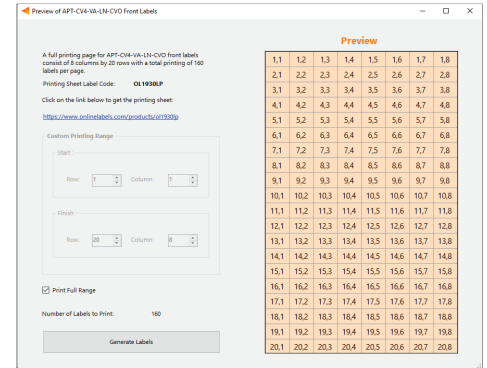

Figure 17: Label generation print preview window
- 1 Select **File > Generate Label** or press **Ctrl +L** to open the Label Generation window (shown in Figure 17).
- 4 Input the starting and finishing rows and columns that will fit on the back or front labels. The selected range is highlighted in blue (Figure 17).